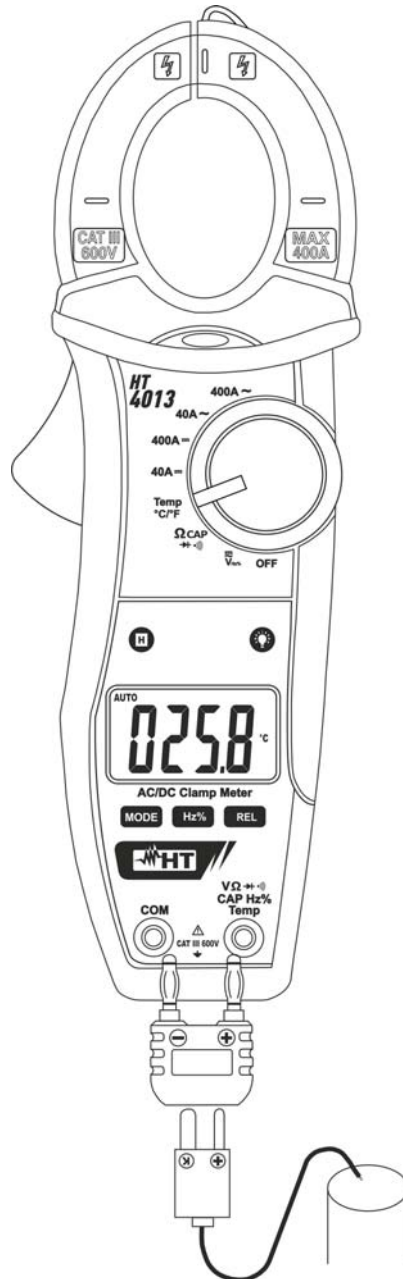

Fig. 9: Use of the clamp for temperature measurement with type K probe
3. Insert the K wire probe provided into input terminal **VΩ→+CAPHz%Temp** and **COM** by means of the relevant adapter, respecting the polarity indicated in Fig. 9. The display shows the value of temperature.